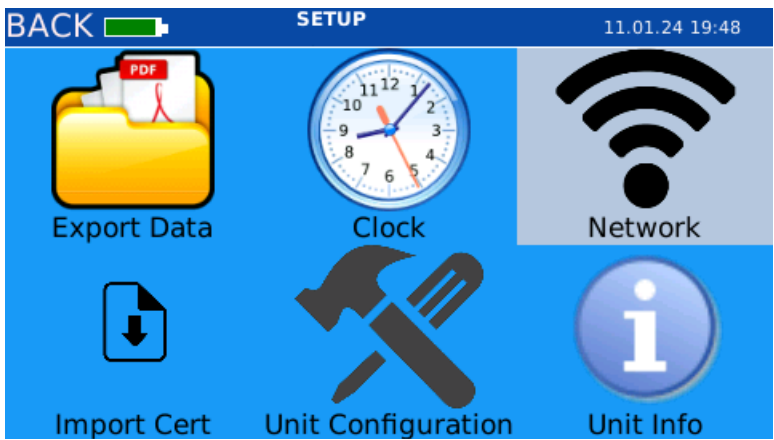

Figure 58. Select "Network"
- 1. In the Setup menu, select **Network** (Figure 58).